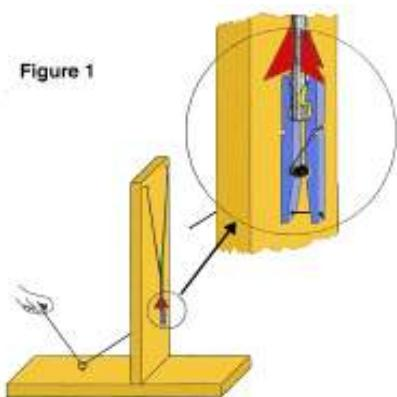

Figure 1
2. Screw in the cup hooks and screw eye into the wood in the places indicated in figure 1.
5. Tie a knot in one end of the string and feed it through the clothes pin as shown in figure 1, through the upright piece of the platform and then through the screw eye. When the free end of the string is pulled, the clothes pin will open. The clothes pin has become a rocket hold-down and release device.